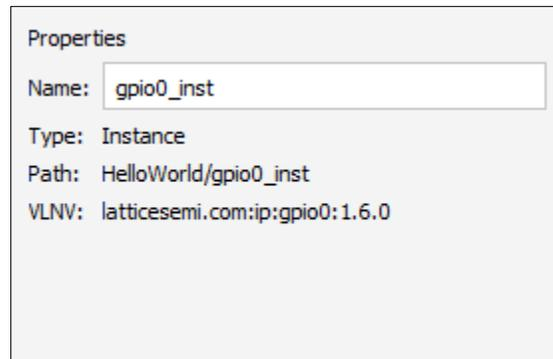

Figure 2.50. Object Properties
1. Select the object from List view of the Design View. Information of the selected object is shown in the **Properties** area (Figure 2.50).